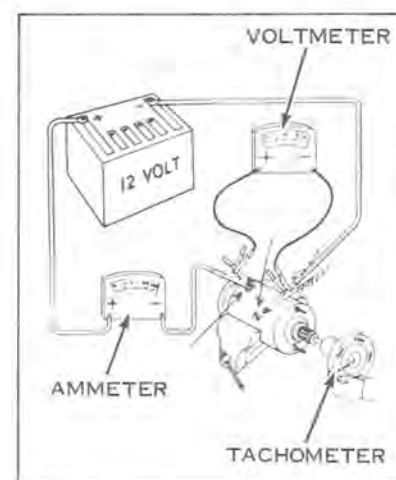

Figure 7-37
- a. Connect starter, with an ammeter in series, to a 12-volt source (see Figure 7-37). Use a tachometer or rpm indicator to indicate armature speed.